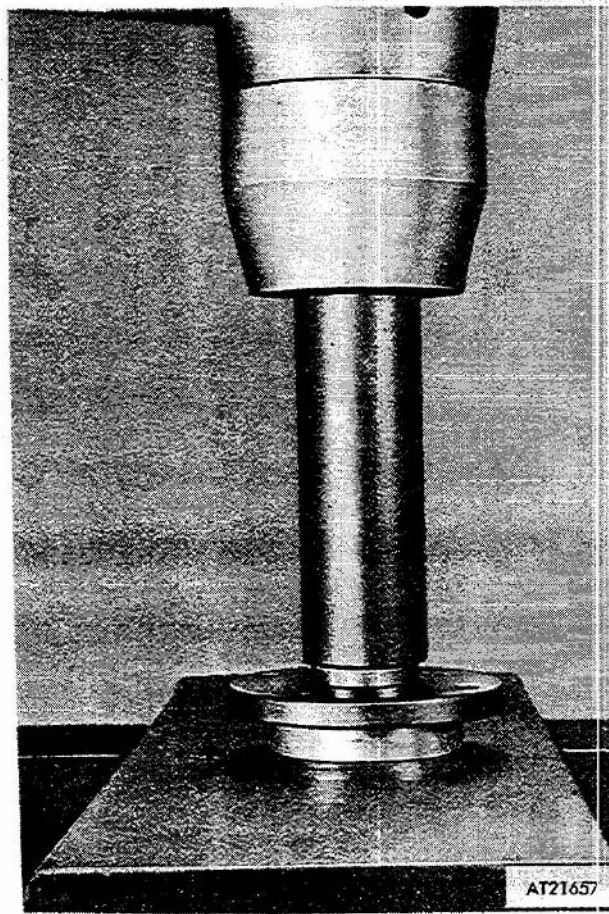

Figure 4-33. Installing oil seal.
(4) Press seal (9, fig 4-26) into retainer cap (10) as shown in figure 4-33.